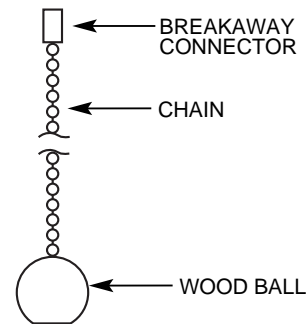

Figure 10C
A. Before installing the globe, determine which of the (2) pull chains is used to control the fan. Located on the bottom of the light fixture, next to the fan pull chain switch is a label marked “fan.” After installing the globe, pull this chain to control the fan. Pull the other chain to control the light. After the globe and finial have been installed, attach the wood balls with the extension chains to the ends of the fan and light pull chains using the breakaway connector attached to the end of the extension chains. See Figure 10C.